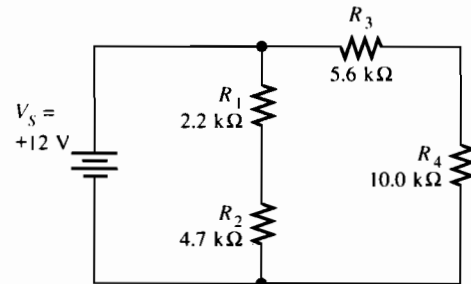

Figure 10–3
1. The voltage divider rule was developed for a series circuit, yet it was applied to the circuit in Figure 10–2.